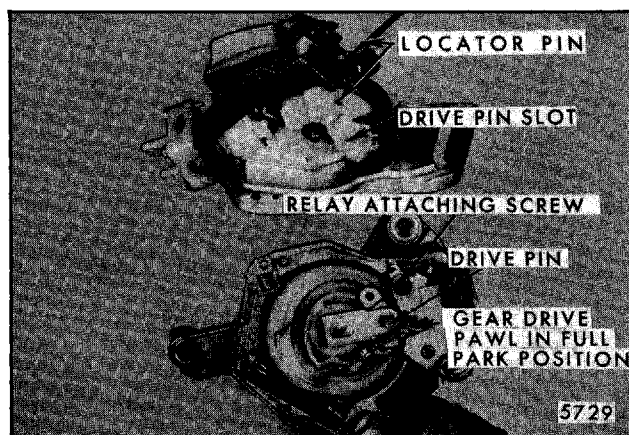

Fig. 2-157-Installing Pump to Motor
NOTE: Gearbox mechanism must be in park position (Fig. 2-157).
1. Install locator pin in pump mechanism as shown in Figure 2-157.
2. Position pump assembly on gearbox and install the three attaching screws (Fig. 2-157).